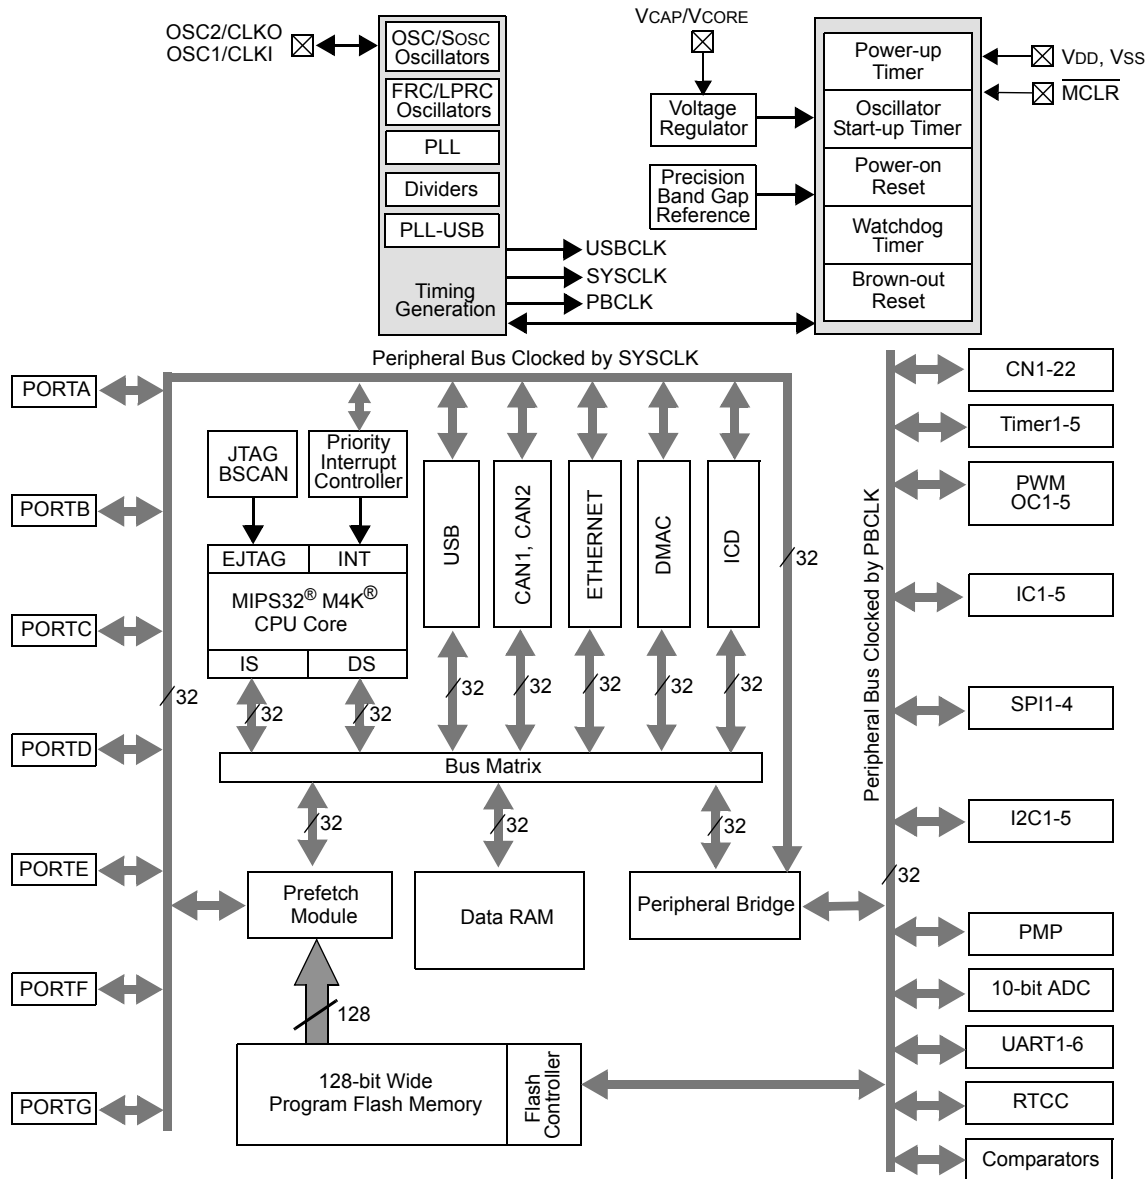

Figure 2.2: The PIC32MX5XX/6XX/7XX architecture.
Figure 2.2 is a block diagram of the architecture of the PIC32. Of course there is a CPU, program memory, and data memory. Perhaps most interesting to us, though, is the plethora of *peripherals*, which are what make microcontrollers useful for embedded control. From left to right, top to bottom, these peripherals consist of PORTA . . . PORTG, which are digital I/O ports; 22 change notification (CN) pins that generate interrupts when input signals change; five 16-bit counters (which can be used as one 16-bit counter and two 32-bit counters by chaining) that can be used for a variety of counting operations, and timing operations by counting clock ticks; five pins for output pulse-width modulation (PWM) pulse trains (or “output compare” OC); five pins for “input capture” (IC) which are used to capture timer values or trigger interrupts on rising or falling inputs; four SPI and five I2C synchronous serial communication modules; a “parallel master port” (PMP) for parallel communication; an analog-to-digital converter (ADC) multiplexed to 16 input pins; six UARTs for asynchronous serial communication (e.g., RS-232, RS-485); a real-time clock and calendar (RTCC) that can maintain accurate year-month-day-time; and two comparators, each of which determines which of two analog inputs has a higher voltage.
communication. The timing generation block that creates these clock signals and other elements of the architecture in Figure 2.2 are briefly described below.